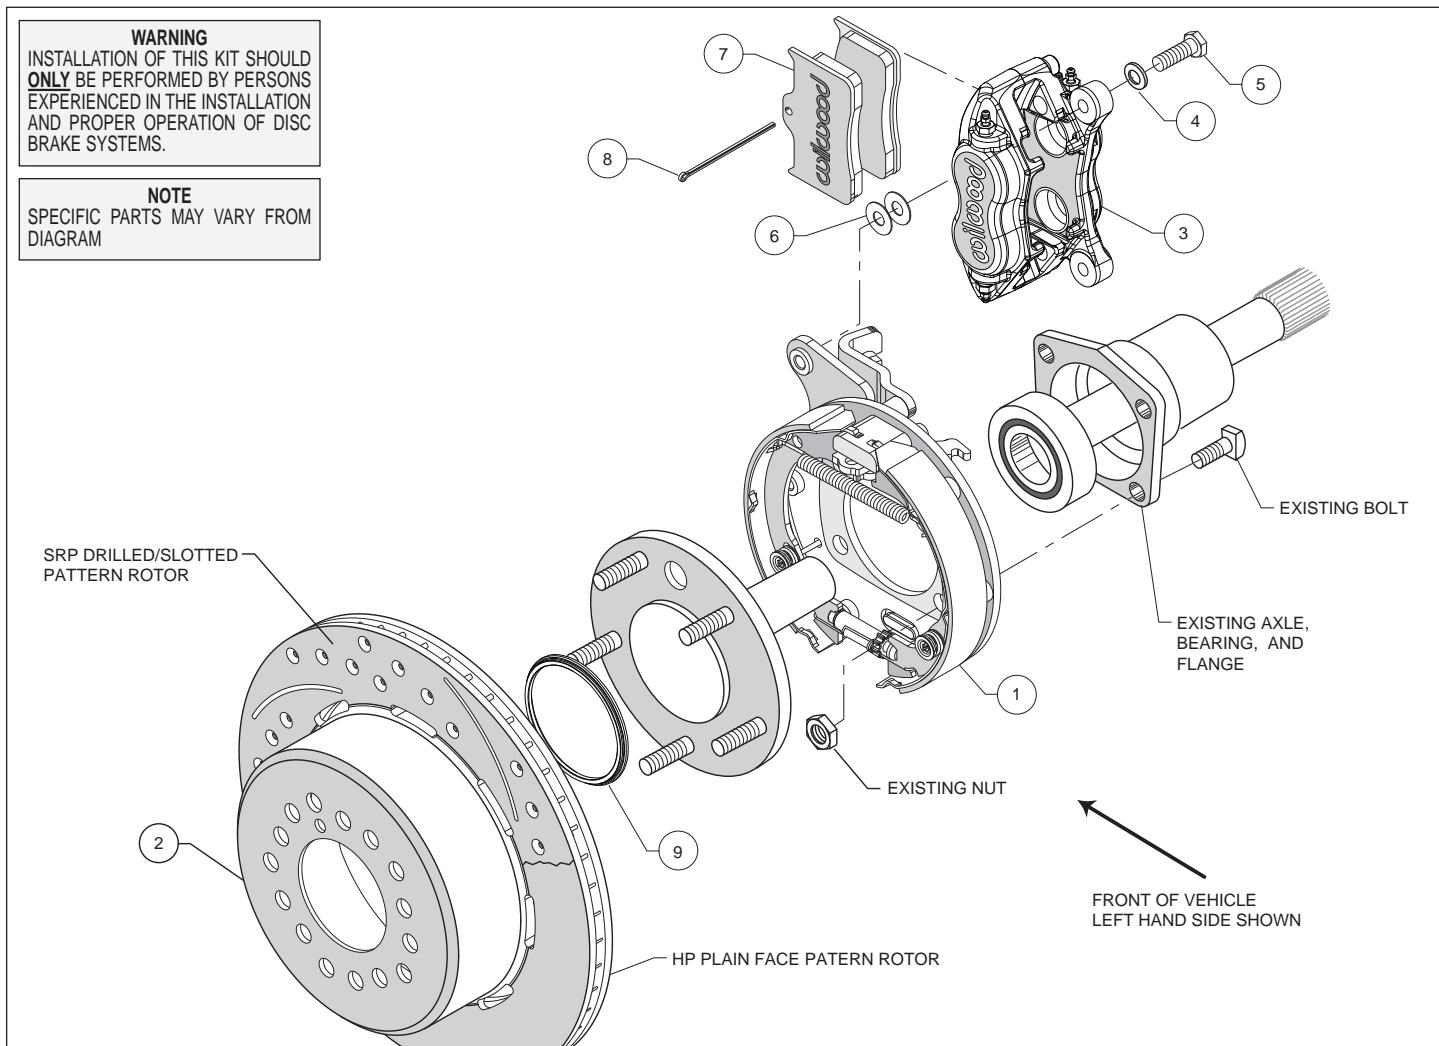
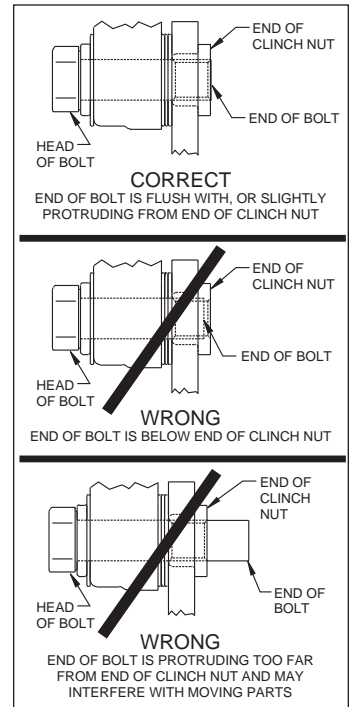

Figure 1. Typical Installation Configuration
Figure 4. Clinch Nut Engagement Diagram
**Assembly Instructions** (numbers in parenthesis refer to the parts list, and Figure 1 on the preceding pages): **CAUTION:** All mounting bolts must fully engage clinch nuts. Be sure to check that all bolts are either flush or protruding through flanged side of clinch nut after shimming, Figure 4.
- Orient the bracket assembly (1), as shown in Figure 1, and mount to the axle housing flange using the Original Equipment Manufacturer (OEM) bolts and nuts, Figure 1. Ensure that the bracket assembly backing plate fits flush against the axle housing flange. Apply red *Loctite*® 271 to the OEM bolt threads and torque to OEM specifications.
- Slide the rotor registration adapter (9) onto the axle register on the axle flange with the smaller O.D. facing toward the rotor/hat (2), Photo 1. Align the correct hole pattern in the rotor/hat with the stud pattern on the axle flange and slide into place, Figure 1 and Photo 2. **NOTE:** The rotor/hat must fit flush against the axle flange or excessive rotor run out may result. Install three lug nuts (finger tight) to keep the rotor/hat assembly in place while continuing with the installation. **NOTE:** Some OEM and after market axles come with stud sizes larger than 0.50" diameter. Verify stud size and have a qualified machine shop drill the bolt circle of the hat/rotor to the correct stud size, if necessary.
•**NOTE:** Please reference the caution statement at the beginning of the assembly instructions. Mount the caliper (3) onto the caliper mounting bracket (1) using bolts (5) and washers (4), as shown in Figure 1.
**For 2.75 offset:** Initially place three .035" thick shims (6) on each bolt between the caliper and the bracket, Photo 3.
**For 2.81 offset:** Initially place one .035" thick shim (6) on each bolt between the caliper and the bracket, Photo 4.
•Temporarily tighten the mounting bolts and view the rotor (2) through the top opening of the caliper. The rotor should be centered in the caliper, Photo 5. If not, adjust by adding or subtracting shims between the bracket and the caliper. Always use the same amount of shims on each of the two mounting bolts. **NOTE:** The end of each bolt must be flush with or slightly protruding from the head of the clinch nut, as shown in Figure 4. If necessary place spare shims between washer (4) and caliper mounting ear to achieve the proper clinch nut engagement. Once the caliper alignment and clinch nut engagement are correct, remove the bolts one at a time, apply red *Loctite*® 271 to bolt threads, and torque to 40 ft-lb.
•Install the disc brake pads (7) into the caliper, with the friction material facing the rotor (2), and secure in place using cotter pin (8), Photo 6.
•**NOTE:** Clevis and cable kits which attach to the parking brake assembly are not included in the Wilwood parking brake kit. Wilwood offers a generic style parking brake cable kit, P/N 330-9371 for this application which can be ordered separately from your local Wilwood dealer or by calling Wilwood customer service at (805) 388-1188.
•Before final installation of the wheel, install three lug nuts, remove the rubber grommet in the bracket kit assembly (1) and adjust the parking brake shoes outward (using a drum shoe adjustment tool available at your local auto parts store) while spinning the rotor/hat (2) until a slight drag is felt against the hat/drum. Replace the rubber grommet when finished.